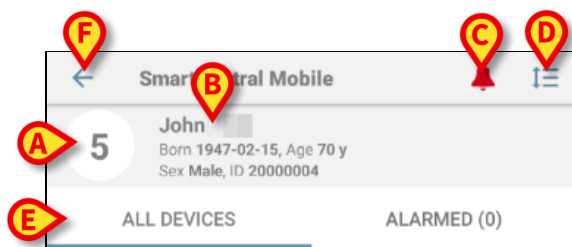

Fig 218
In the heading area (Fig 218) the following information and tools are available:
- Bed number (Fig 218 **A**).
- Patient data (Fig 218 **B**).
- The red bell icon (Fig 218 **C**) indicates that there is at least one medical device alarmed on one of the other beds (those not currently displayed).
- Use the icon indicated in Fig 218 **D** to enlarge the device-areas and display more information for each connected medical device (Fig 219). The type of information displayed depends on the configuration and the specific device.
- Touch the icon (Fig 218 **D**) again to go back to compact display mode.
- Use the filters indicated in Fig 218 **E** to display either all the connected medical devices or only the ones providing notifications.
- Use the back-arrow button (Fig 218 **F**) to go back to the “Central” screen.